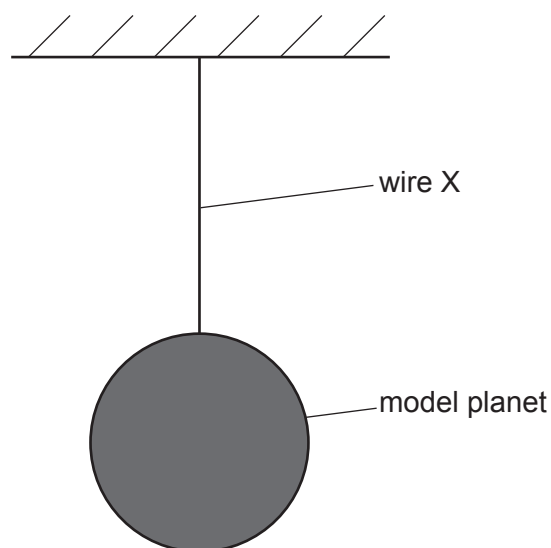

Fig. 3.1 (not to scale)
- 3** A thin metal wire X, of diameter $1.2 \times 10^{-3} \text{ m}$, is used to suspend a model planet, as shown in Fig. 3.1.